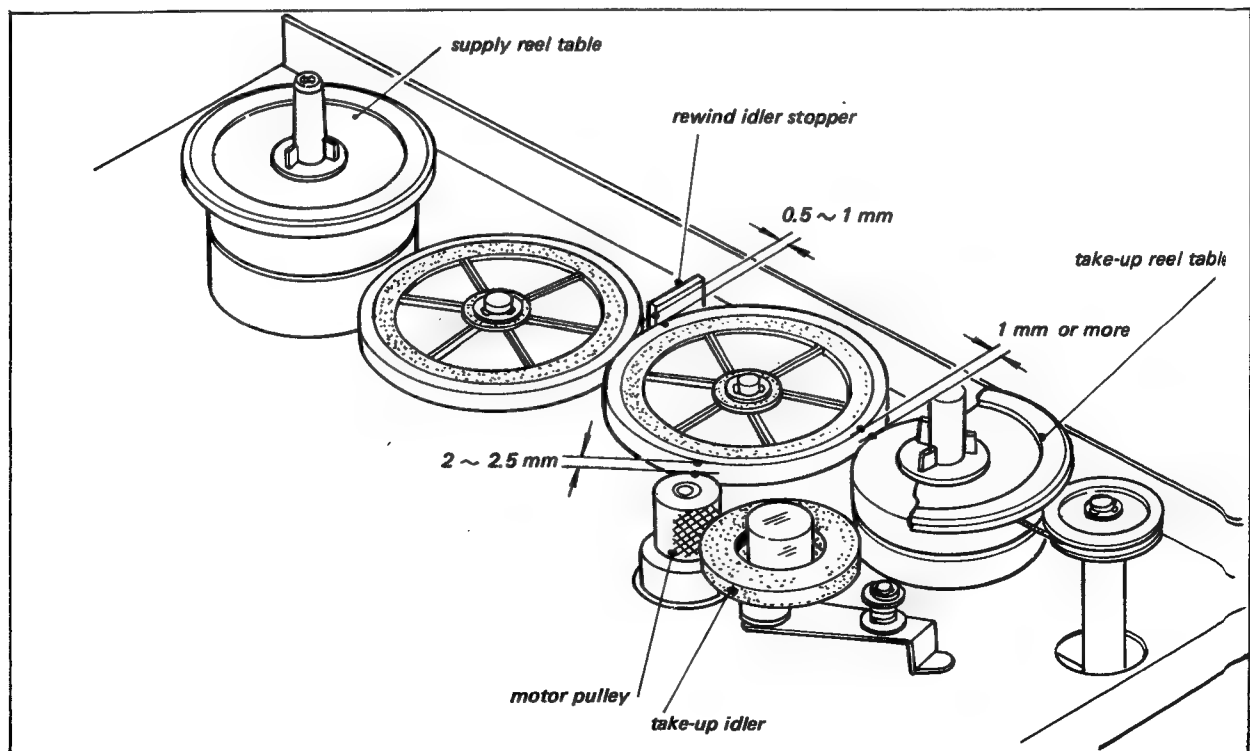

Fig. 4-13. Rewind idler replacement
3. Set the Function Lever to STOP. Check that the Right Rewind Idler is clear of the Idler Stopper by 0.5 to 1 mm. See Fig. 4-13. If this condition does not exist, bend the Idler Stopper with a pair of pliers.
5. Set the Function Lever to STOP. Check that the Supply Reel Table, Left Rewind Idler, and Right Rewind Idler are contacting securely. Make sure at this time that the Right Rewind Idler is disengaged from the Take-up Reel Table by more than 1 mm. See Fig. 4-13. To replace the Rewind Idlers proceed as follows.